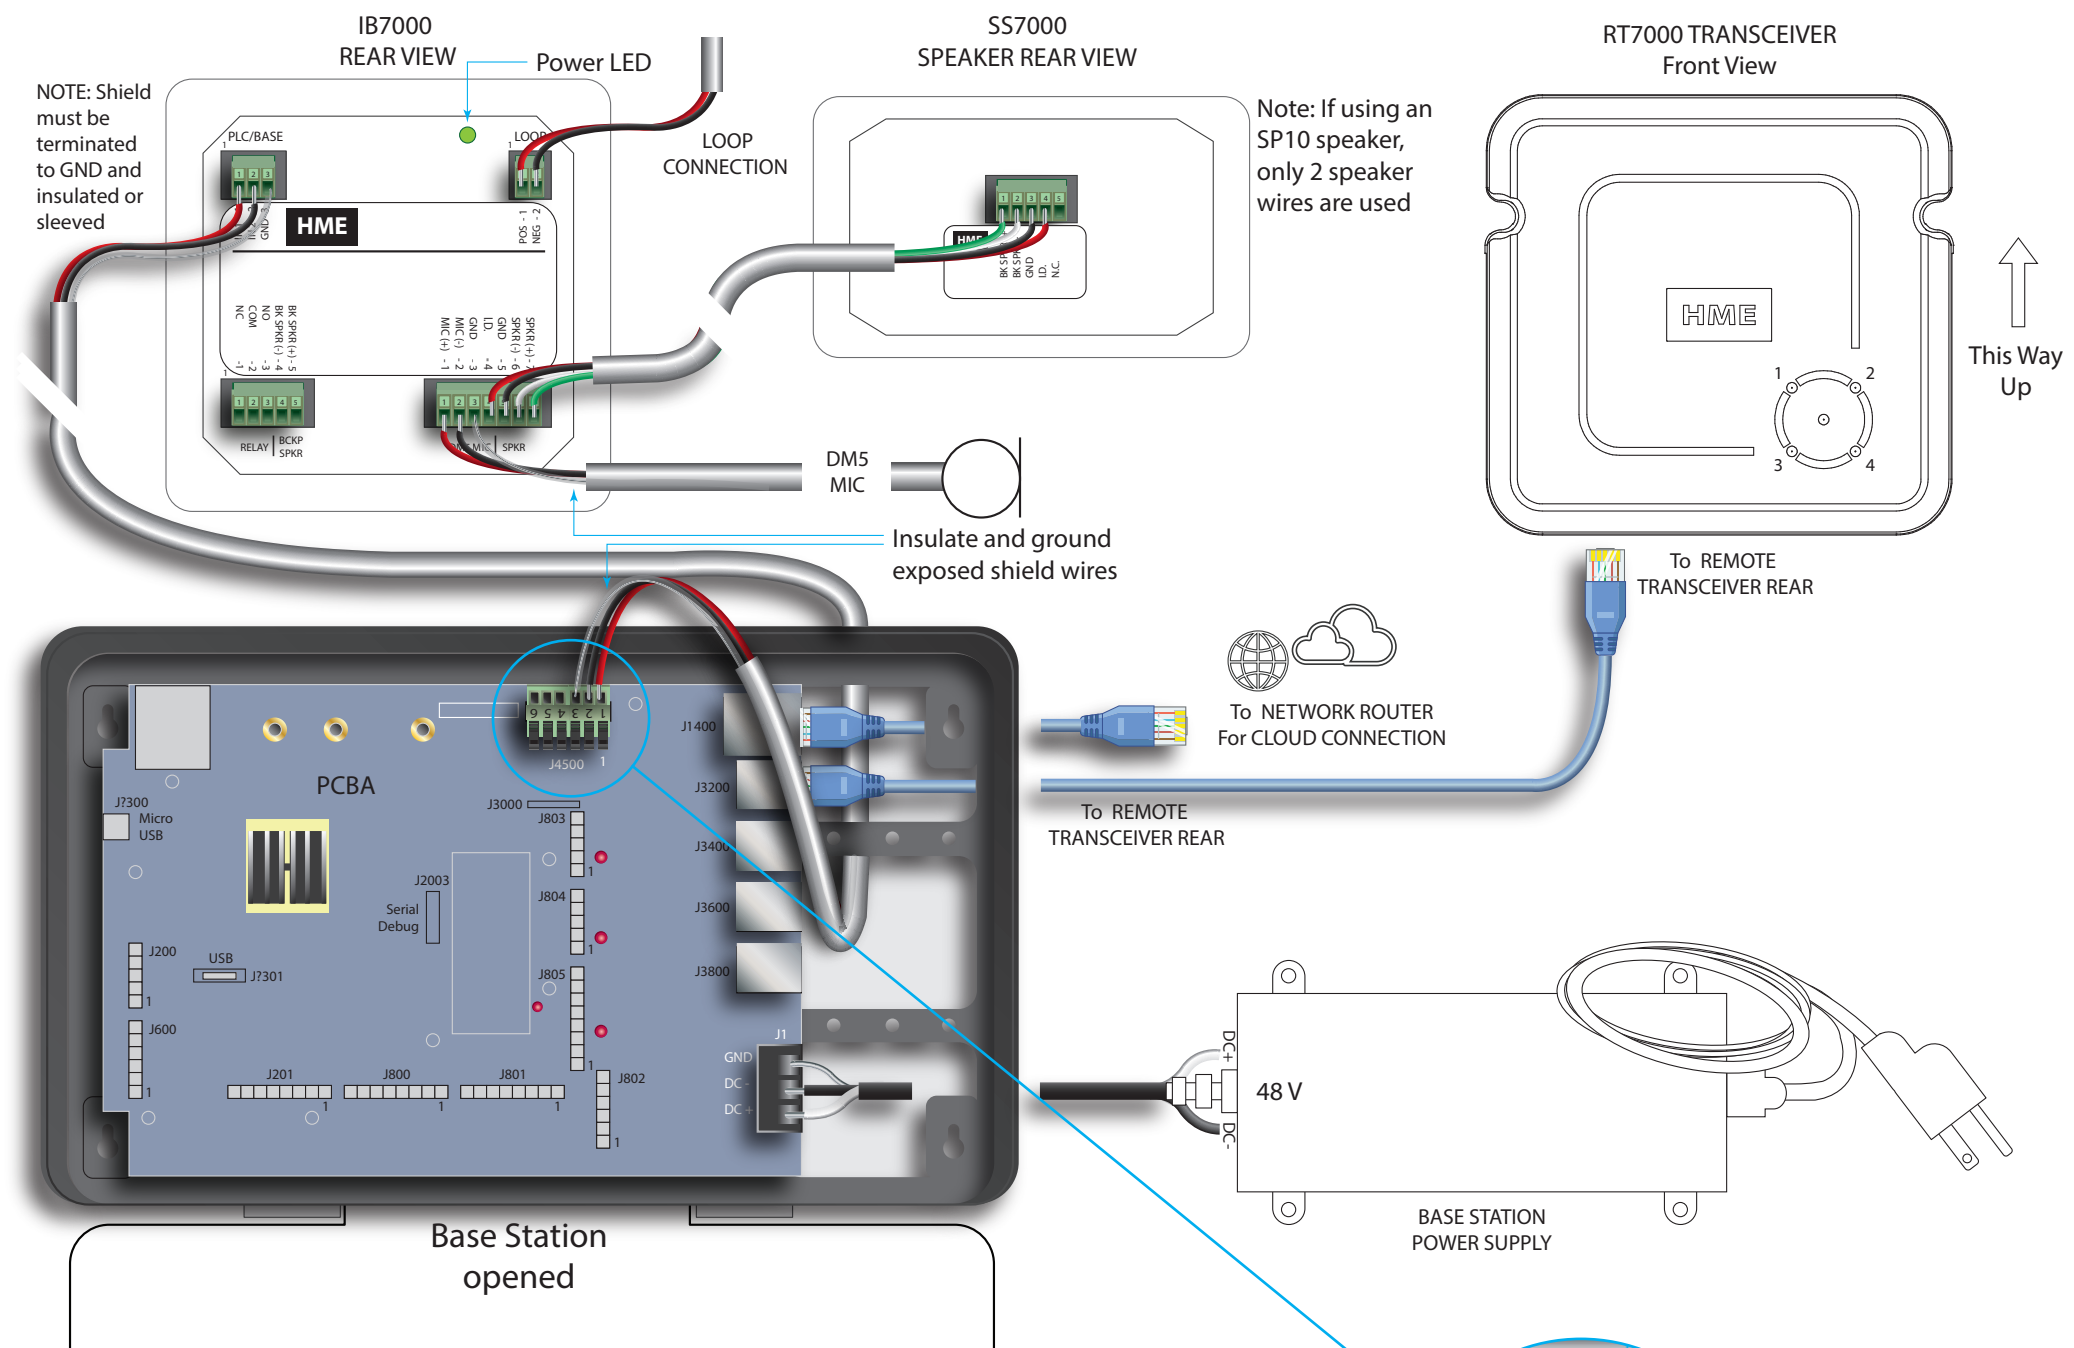

Fig. 2.3
- 6 Install the other components. The DM5 microphone and SS7000 speaker, or SP10 speaker, must be installed using the IB7000 interface box. See Fig. 2.3 and “Component Notes” on page 3. See Fig. 4.2 on page 4 if using the SP7000.
**J4500 Detail:** Fig. 2.3 shows the connections for a single-lane drive-thru.